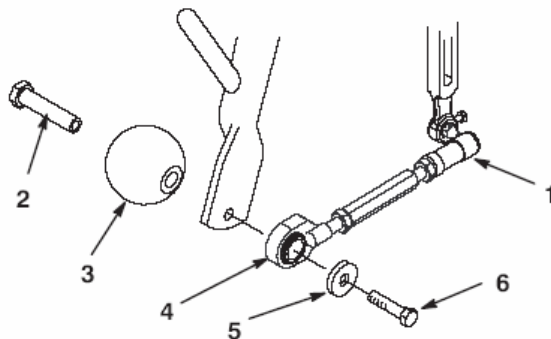

Figure 4
1. Slide the sleeve back on each ball joint receiver and unhook the receiver from the cutting unit ball stud (Fig. 4).
2. Remove the roller shaft, washer and screw securing the anti-scalp roller and pull link assembly to the end of each front carrier frame (Fig. 4). Retain the ball joint receiver and the anti-scalp roller.